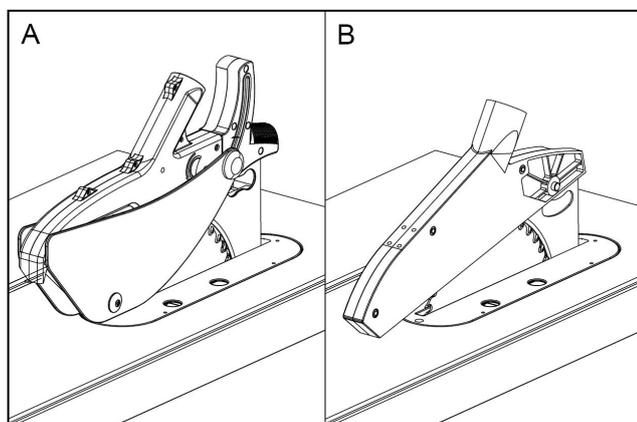

Fig.12
3. Fig.12 (A) shows the blade guard, meeting the UL62841 standard, is suitable for the North American market. Fig.12(B) shows the blade guard meeting the CE standard. For different markets, the machine is equipped with different blade guards, please refer to the chapter “3. Machine Description” for detailed information.